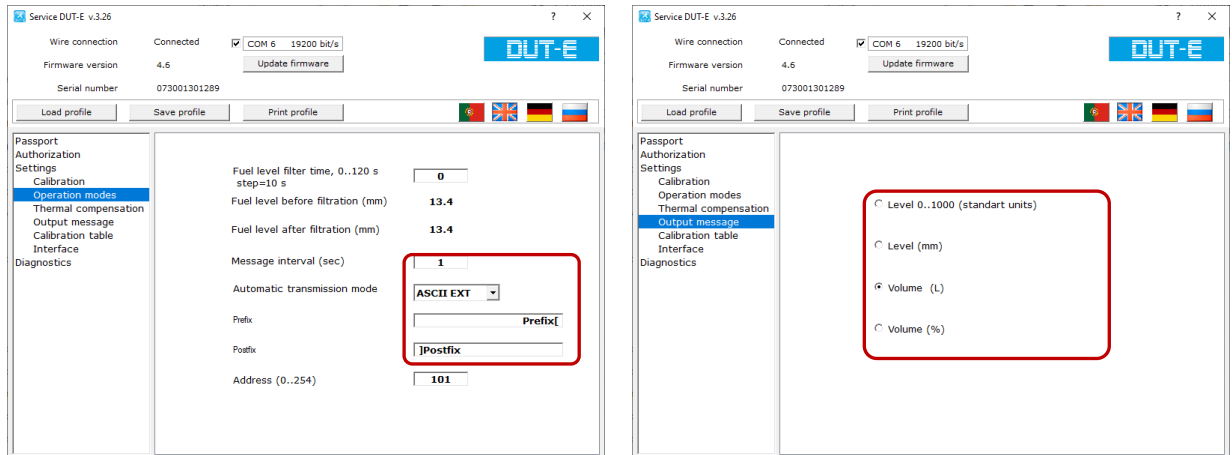

Figure F.3 — Example of DUT-E 232 sensor settings made using the service software for data transfer, according to ASCII EXT extended text protocol
2) According to ASCII EXT extended text protocol, DUT-E 232/485 sensor displays one parameter at set intervals in the form of characters (ASCII code) — current data readings in units preset using the service software (conventional units/mm/liters/%) (see figure F.3).